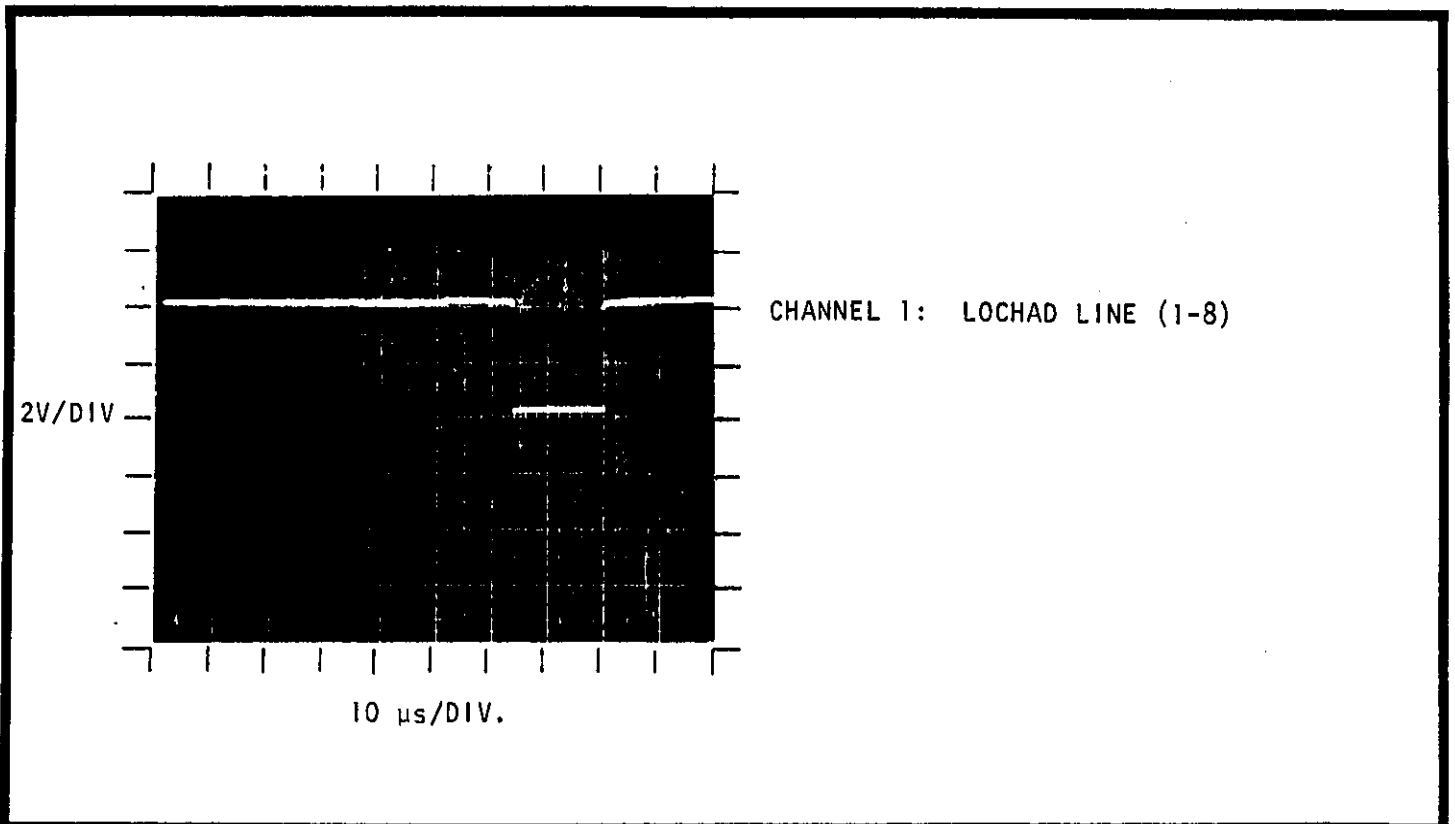

FIGURE 22. Trace For Test #19 (Part 2).
11. Verify the waveform shown in Figure 22. (See page 5-24.)